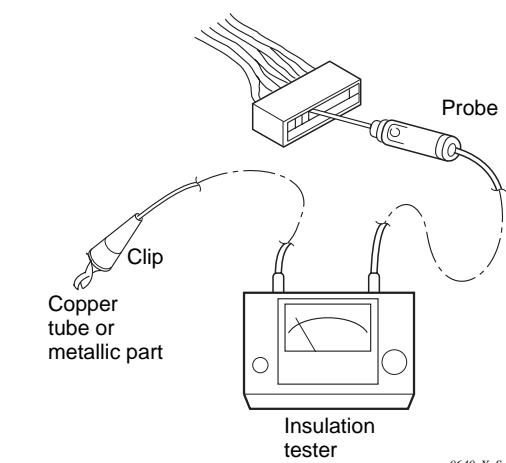

Fig. IV-16
④ Measurement of Insulation Resistance for Electrical parts
- Disconnect the connector of the desired electric part from terminal plate, P.C.B. Ass'y, etc. (Fig. IV-16)